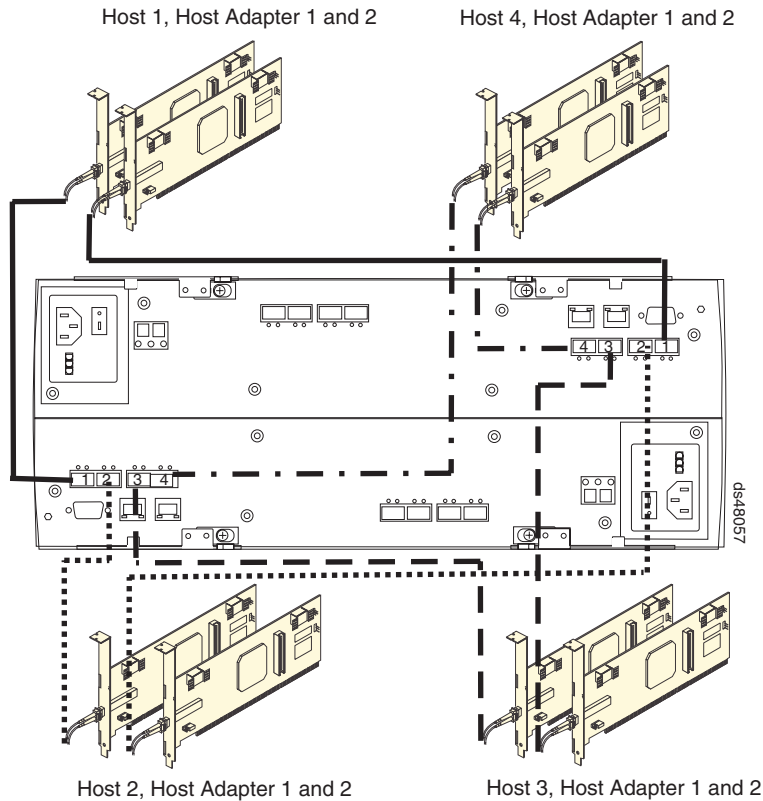

Figure 63. Cabling diagram for four redundant host connections
3. Repeat steps 1 on page 90 and 2 for each additional redundant host connection. You can create a maximum of four redundant host connections, as shown in Figure 63 on page 92.
Note: Figure 63 on page 92 shows that the DS4800 host ports are connected to four sets of FC host bus adapters (HBAs). You can replace one or all of these sets of FC HBAs with FC switches as required.